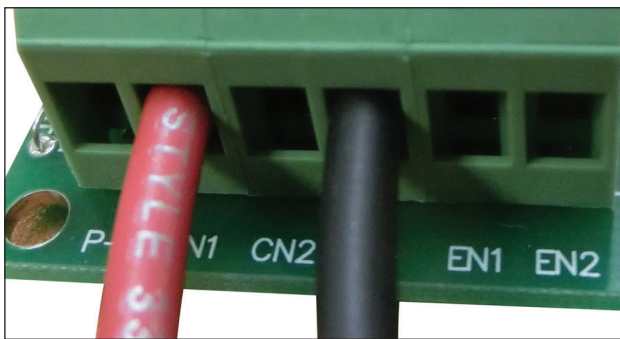

Figure 6. Setpoint Signal
- If you are using two valves: setpoint signal to CN1 will NOT control second valve (O2+/O2-). To use the same setpoint signal for both valves: jump signal from CN1 to CN2 (See Figure 6).